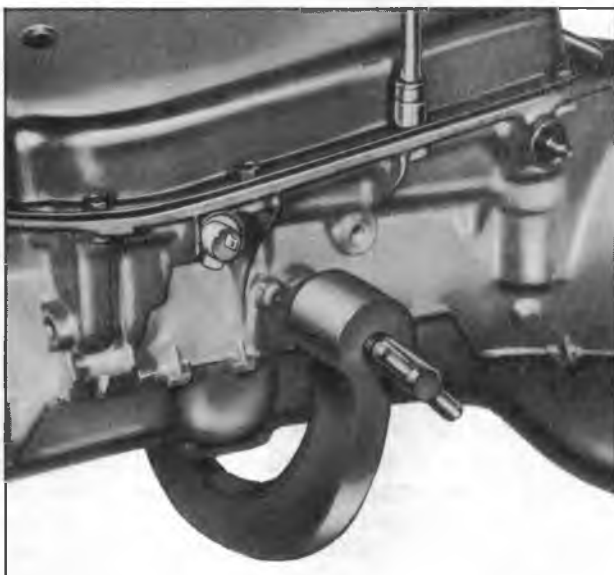

Figure 7—Removing Oil Pan Attaching Screws
5. Remove oil pan attaching screws, oil pan, and pan gasket (fig. 7). Discard gasket.